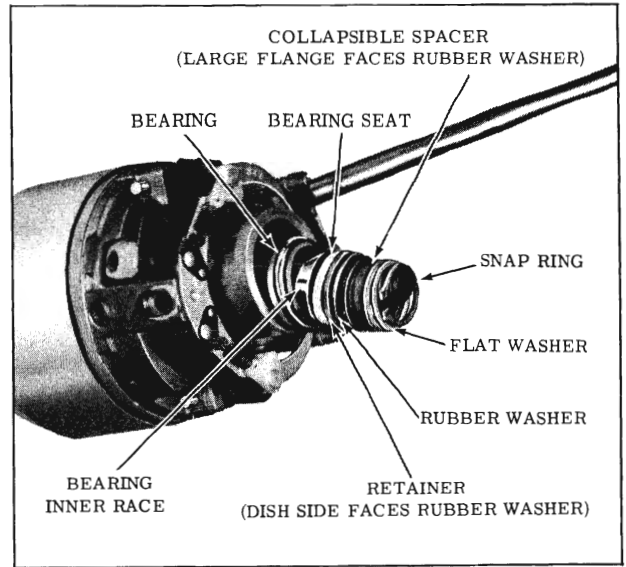

Fig. 4-87 Removing Upper Shaft Parts
5. Remove the washer, collapsible spacer, rubber washer, retainer, bearing seat, inner race and steering shaft upper bearing. (Fig. 4-87)